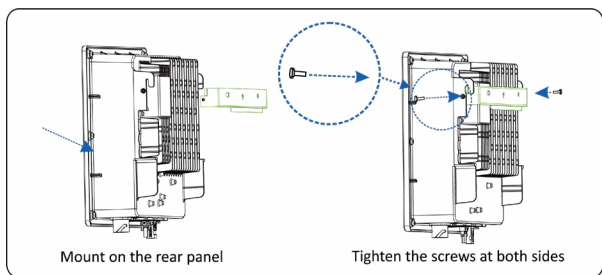

Figure 4.14 Securing the inverter
Step 2 Mount the inverter on the rear panel and keep them aligned with each other, as shown in **Figure 4.14**.
Step 3 Tighten the two hexagon screws at the both sides of the inverter to a torque of 1.2N.m and 3N.m respectively. Screw specs for 3K and 5K/6K are M4 and M6 respectively, as shown in **Figure 4.14**.